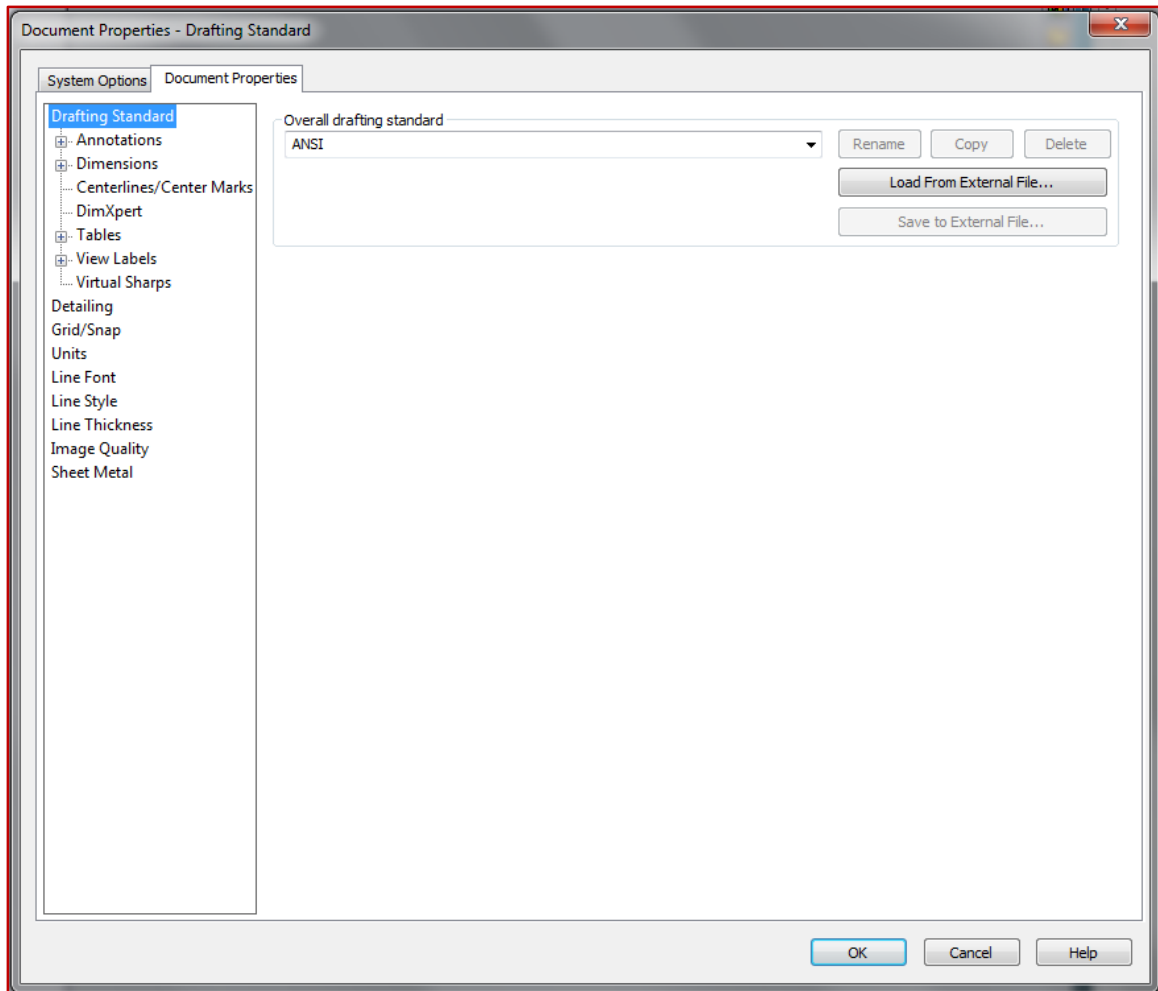

Figure 12.4 – Tools→Options→Document Properties
- ✓ Your screen should look like Figure 12.4.